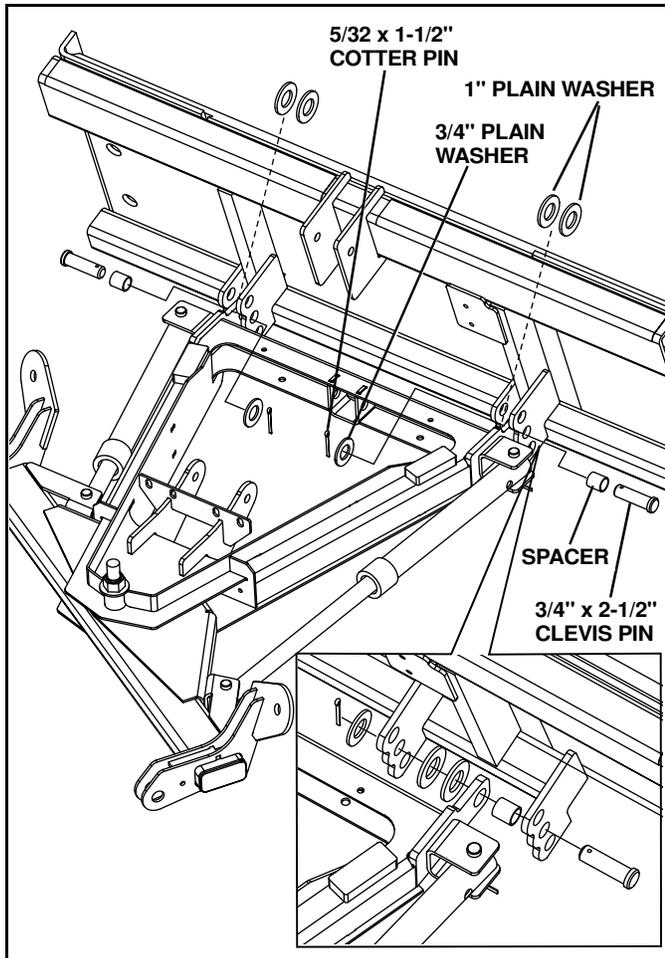

Figure 2-7
1. Install swing frame into A-frame center hole with 3/4" x 6-1/2" bolt, plain washer, and 3/4" locknut. (See Figure 2-7)
(See Figure 2-7)
2. Slide the A-frame into the middle position of the universal adaptor bracket. (See Figure 2-7)
3. Insert 3/4 x 2-1/2" clevis pin into the a-frame lugs. On one side add the additional 1" plain washers to prevent the a-frame from sliding side to side. Push the pin all the way through the adaptor plate and insert cotter 3/4" plain washer and 5/32" x 1-1/2" cotter pins to retain pins in position. (See Figure 2-7)